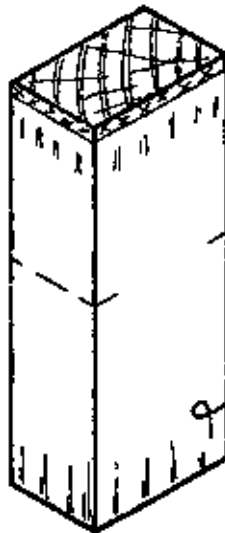

Fig. 3
- Mark the length of the socket (plus 2 mm waste) on the end of the other member, making the length equal to the width of the pin. Square the lines across the face side and on both edges (Fig. 3). Remember to smooth the pieces before using them to mark.